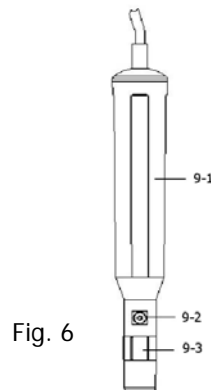

Fig. 6
- 1) Unscrew the " Probe head " ( 9-3, Fig 6 ).
- 4) Screw the " Probe head " ( 9-3, Fig 6 ) into the probe body.